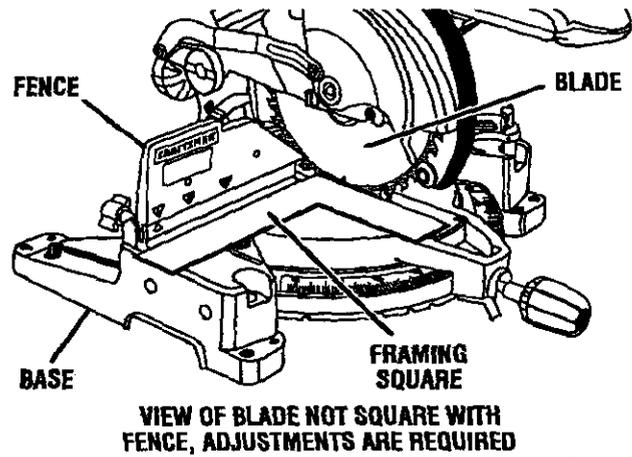

Fig. 26
- If the front or back edge of the blade angles away from the square as shown in figures 26 and 27, adjustments are needed.